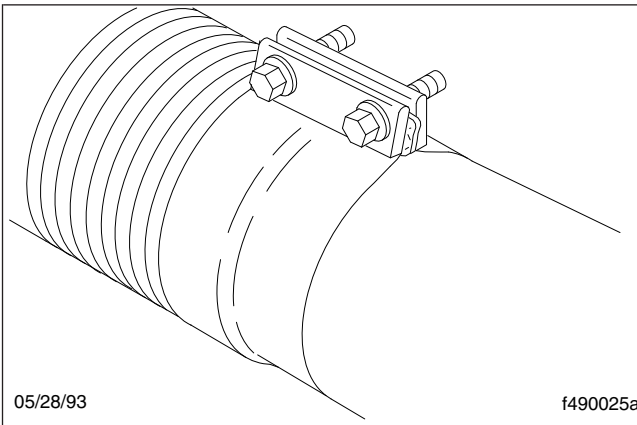

Fig. 3, Donaldson Sealclamp Wide-Band Exhaust Clamp
8. Check for leakage at all wide-band exhaust clamps. See Fig. 3.